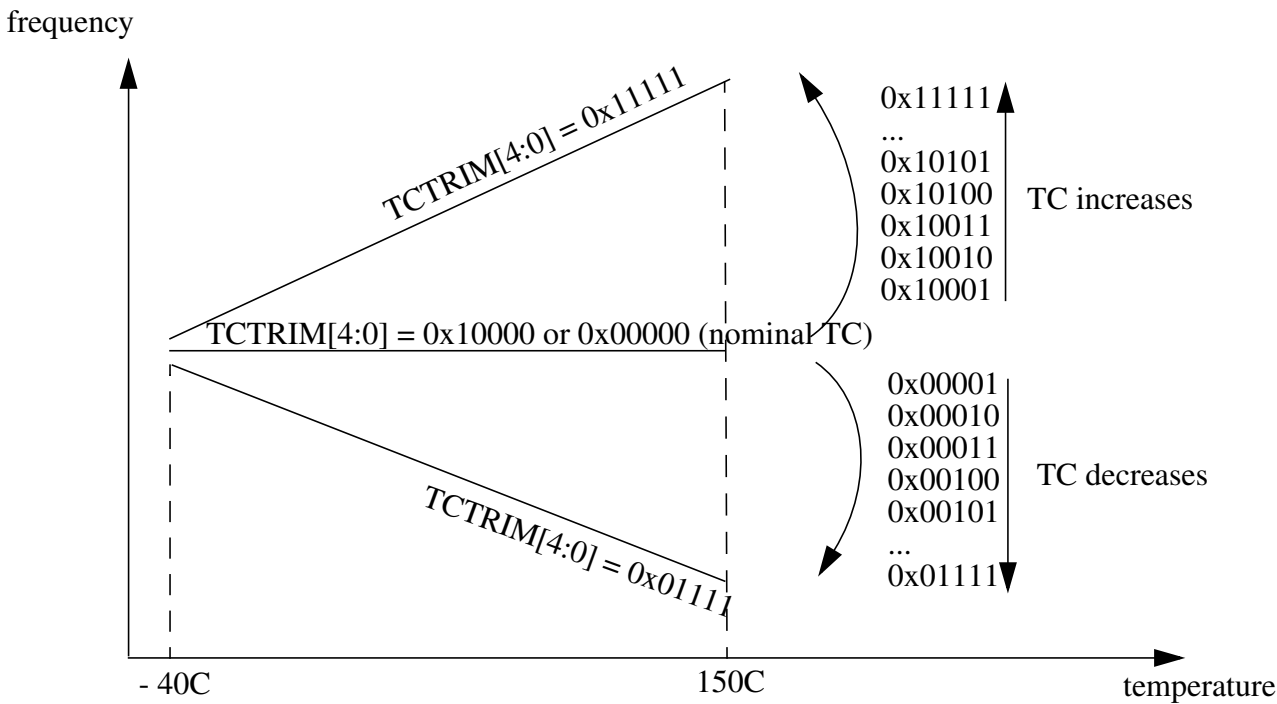

**Figure 4-29. Influence of TCTRIM[4:0] on the Temperature Coefficient**
| 15-11TCTRIM[4:0] | IRC1M temperature coefficient Trim BitsTrim bits for the Temperature Coefficient (TC) of the IRC1M frequency.Table 4-26 shows the influence of the bits TCTRIM[4:0] on the relationship between frequency and temperature.Figure 4-29 shows an approximate TC variation, relative to the nominal TC of the IRC1M (i.e. for TCTRIM[4:0]=0x00000 or 0x10000).                                                                                                                                                                                                                                                                                                                                                                                                                                                                |